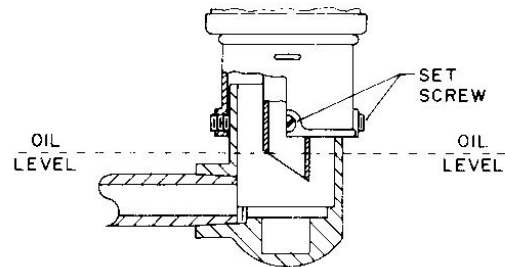

Figure 16
2. Place the upper part of the lubricator on to the lower part and tighten the three (3) setscrews (Figure 16).
3. Fill the reservoir with oil, place thumb over reservoir spout, invert and screw reservoir inter upper casting. Allow reservoir to empty, filling the bearing housing (Figure 16). Depending on the size and capacity of the bearing housing several fillings of the reservoir may be required before the actual oil level is reached. **NEVER USE THE LOWER CASTING ONLY AS A FILL SPOUT, ALWAYS FILL THROUGH THE RESERVOIR.** When oil level is reached, no more oil will run out of reservoir bottle.